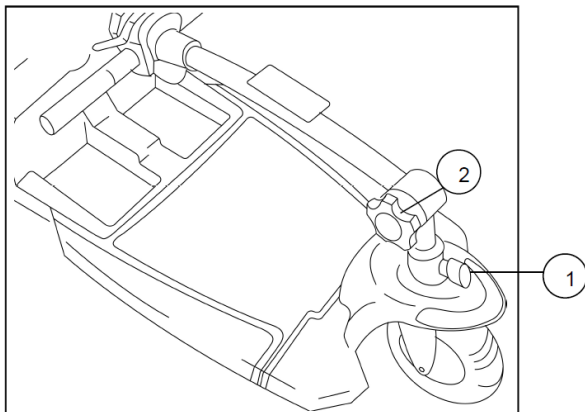

Figure 17: Lowered Tiller
6. Push in and turn the tiller lock clockwise 90 degrees. *See #1 on Figure 17.*
7. Loosen tiller adjustment knob and fold the tiller down flat. *See #2 on Figure 17.* Then tighten the adjustment knob to secure the tiller in its new position.